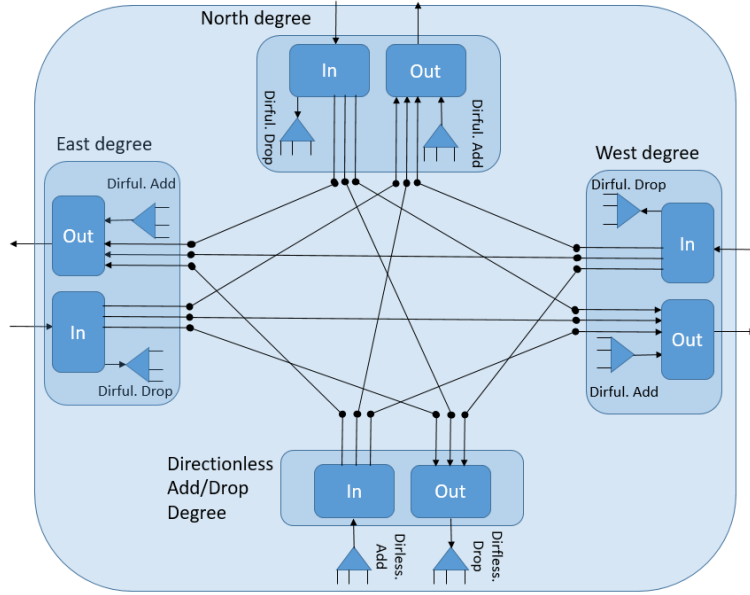

Figure 5: Generic OADM architecture. Example OADM of three degrees, directionful add/drop modules per degree, and one shared directionless add/drop module.
Fig. 5 illustrates the structure of an OADM of a generic type, with three degrees (i.e. connected to other 3 OADMs). Degrees are named as East, North and West: it is typical to call OADM degrees like that in a configuration of up to 4 degrees.
Each fiber can have or not a booster amplifier at the start of the fiber, and a pre-amplifier at the end. Their characteristics can be configured in the **Fibers** tab. They are not included in Fig. 5.
Each output module of a degree (Out in Fig. 5), receives the input optical channels from:
- *Disadvantage.* Directionless modules are as expensive as a degree module. Additionally, directionless modules are subject to *internal blocking*, since it is not possible to add or drop two lightpaths with overlapping optical channels in the same module. For instance, in Fig. 5, it would not be possible to add two lightpaths in the node that use the same wavelength, one heading to the East and one to the West, since their spectrum would be mixed in the multiplexer. To make this double add possible, we would need two directionless add/drop modules, placing each lightpath in a different one.